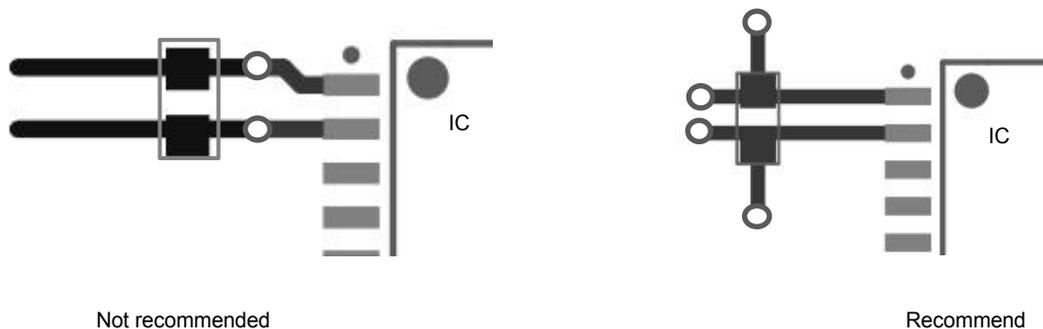

Figure 17-2
3. When it is necessary to place vias in the power supply line and ground wire, the position of the vias should be on the outer side of the capacitor relative to the chip pins, rather than between the capacitor and the chip, as shown in Figure 17-2 to reduce the impact of parasitic inductance in the vias.